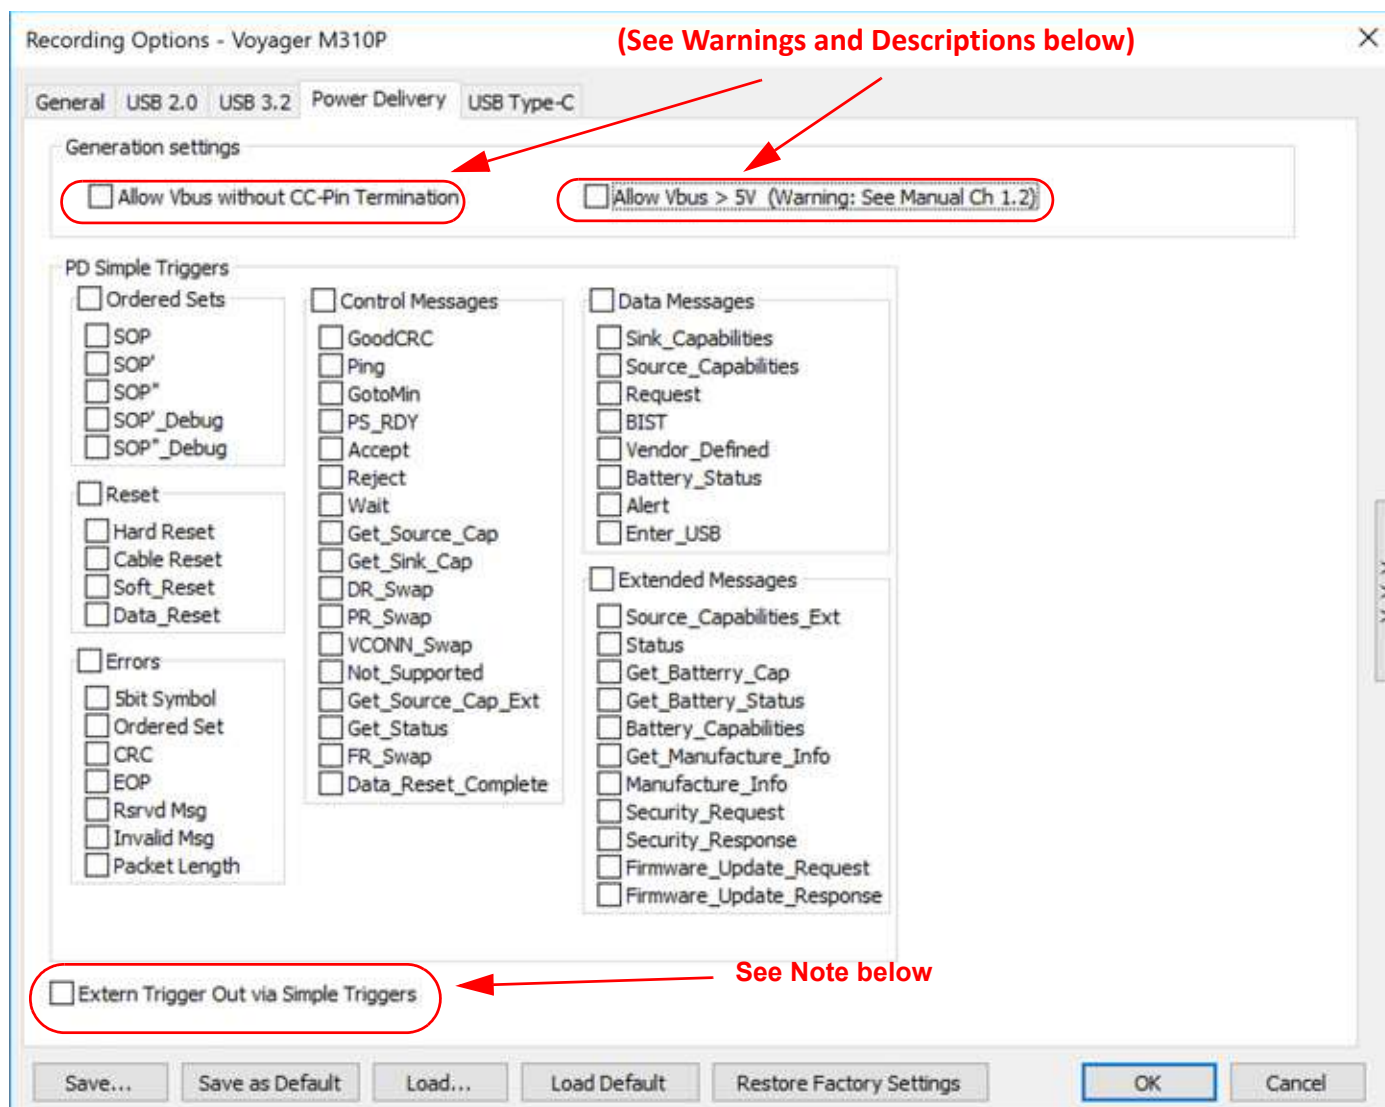

Figure 5.73: Power Delivery Recording Options -> Exerciser (Simple Mode) for M4x, M310P, M310C, T2P and T2C
- ❑ Exerciser Mode: Figure 5.73 on page 326